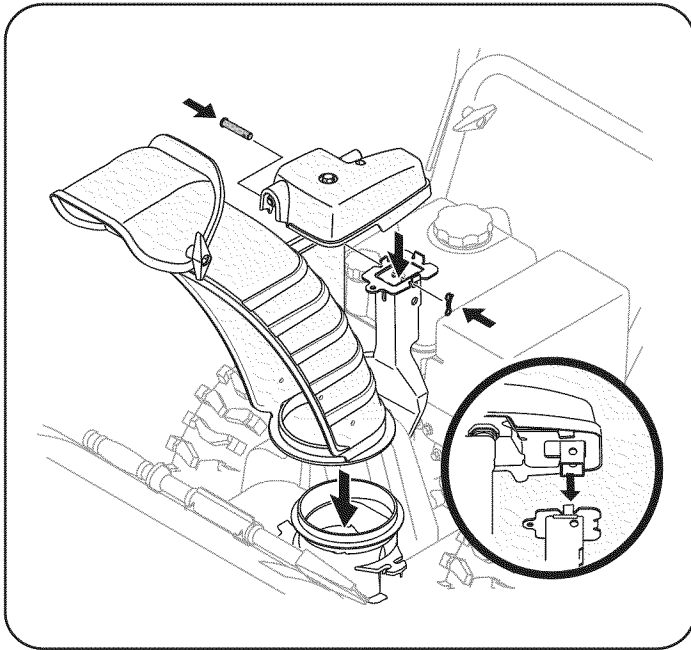

Figure 4
5. Place chute onto chute base and secure chute control head to chute support bracket with clevis pin and cotter pin removed earlier. See Figure 4.